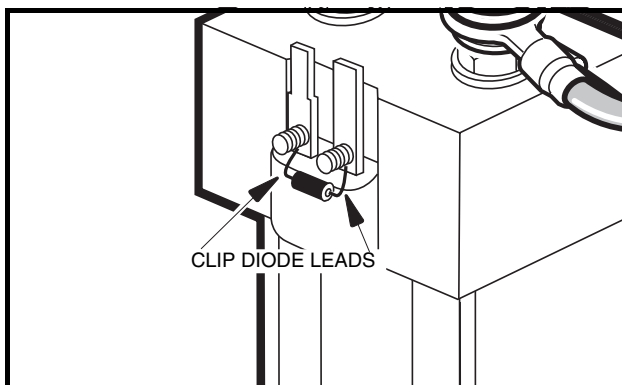
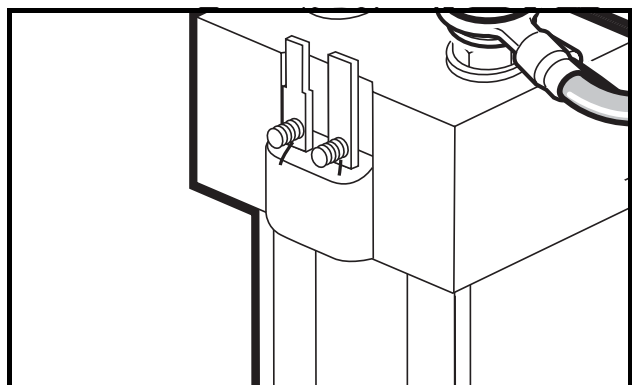

Figure 11-9 Diode Removal
Figure 11-10 Solenoid with Diode Removed
4. To remove the diode, carefully clip the two leads where they attach to the solenoid terminals (**Figure 11-9, Page 11-15 and Figure 11-10, Page 11-15**). See following NOTE.